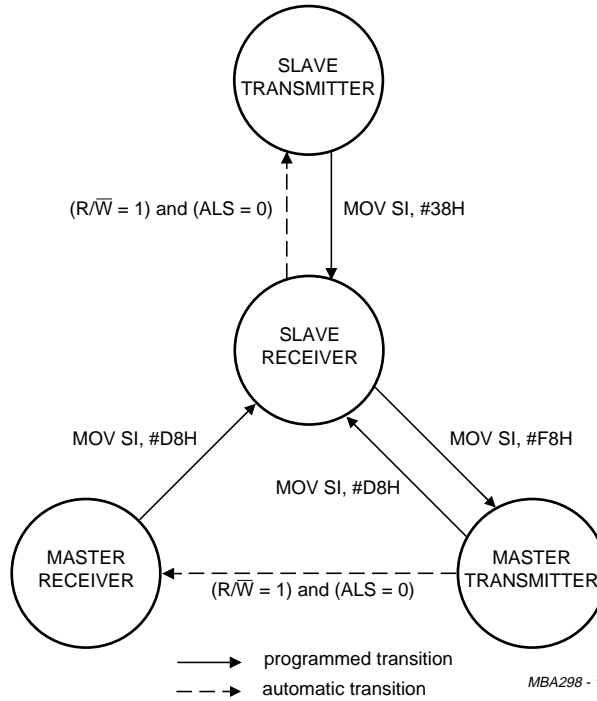

Fig.15 State diagram of the I²C-bus interface.
MST and TRX together define the state of the I²C-bus interface. When not engaged in a bus transfer MST and TRX should always be at zero, the slave/receiver state (see Fig.15). Return to this state is always performed by software. If the previous state was the master state, the transition (to slave/receiver by MOV1, #D8H) involves a stop condition which, as a consequence, clears both MST and TRX.
6.9.4.3 Bus Busy bit (BB)
The Bus Busy bit (BB) is controlled by the I²C-bus interface or by software in the bus master to generate the start and stop conditions. When a master clears BB (by MOV S1, #D8H), the I²C-bus interface automatically clears MST and TRX, thereby returning to the slave/receiver state (see Fig.15). If BB = 1, write access to S1 is inhibited, except for the master or an addressed slave. Should BB be inadvertently set by excessive noise on the bus, the deadlock can be resolved by two consecutive MOV S1, #18H, the first of which just clears BB.
When a slave/transmitter detects an end of transmission (signalled by the lack of an acknowledgment from the master receiver), it has to access S1 in order to cancel PIN and to become slave/receiver. However, BB should remain set. This is reflected by MOV S1, #38H as illustrated in Fig.15. With PIN = 1, 'clock synchronization' terminates, enabling the master to generate the stop condition.